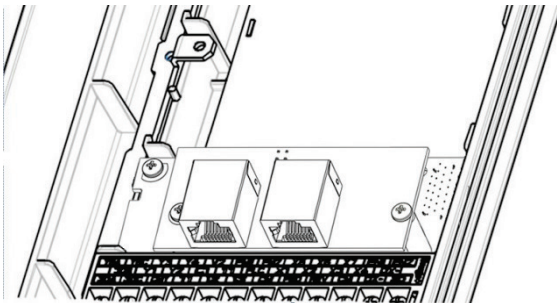

Figure 8: Interface Card Mounting Completed
4. Secure the interface card to the connector board PCB by first tightening the captive M3 x 25mm screw into the inverter standoff located at the lower-right hand corner of the interface card. Next, install and tighten the included M3 x 6mm screw into the standoff mounting hole located at the upper-left hand corner of the interface card. Refer to Figure 8.